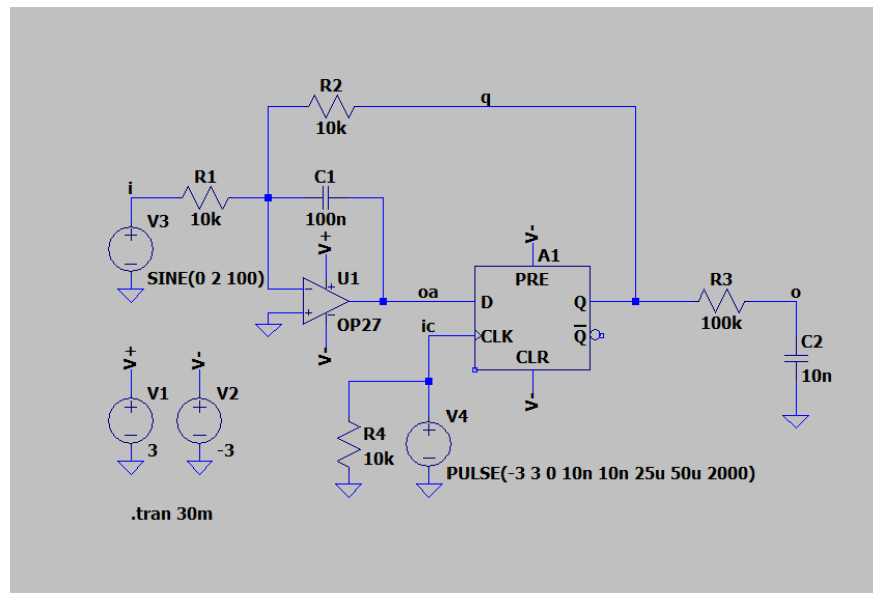

Figure 1
1) Using the simulator, design the circuit shown in Fig. 1 **(30pts)**